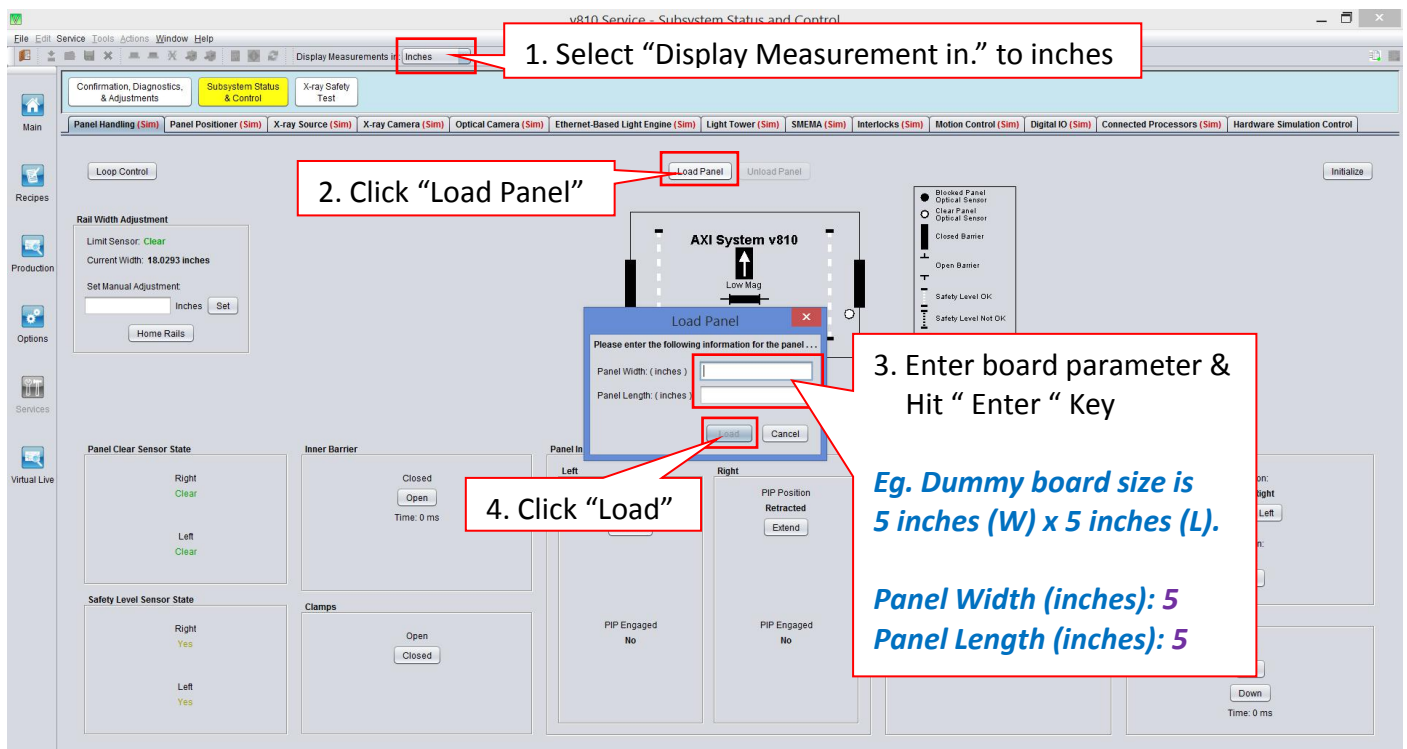

Figure 15 Panel Handling
13. Enter board parameter & click “Load” as shown in Figure 15